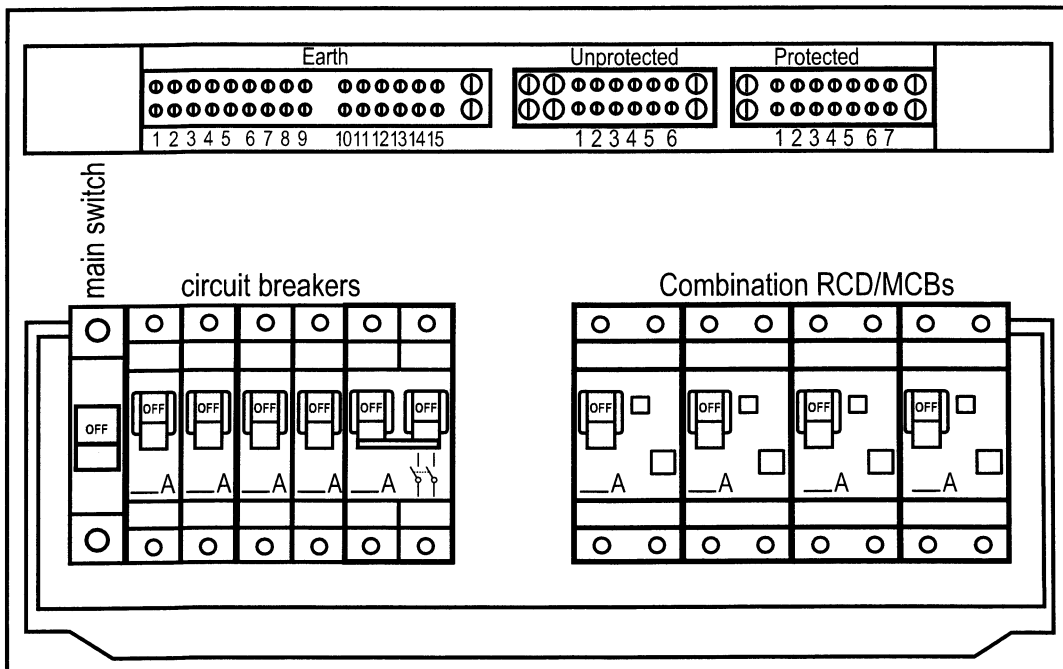

Figure 4.9
28. The equipment shown in Figure 4.9 is for a switchboard in a domestic installation. Show on the diagram the necessary Active, Neutral and Earth connection for the following: